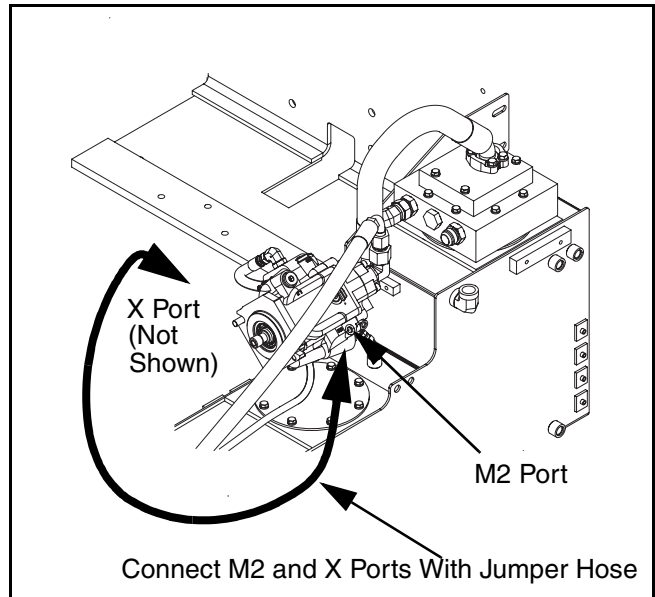

Figure 40 M2 Port - Tractor Generator Pump
- 3) Add a jumper hose between ports X and M2 on pump (Figure 40).